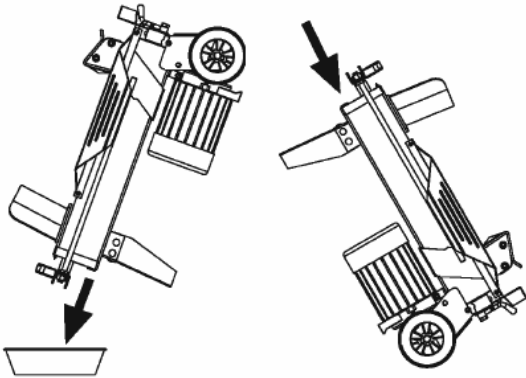

Fig.22: PREHLS52 / 042001 ;
- Turn the log splitter on the Support Leg side (Fig.22 & 23) over a container (4 liters capacity for log splitter Ref. 042001/PREHLS52; PREHLS52/5 / 042031 and 8 liters capacity for log splitter Ref. 042011/PREHLS7T) to drain the hydraulic oil off.
- Turn the log splitter on the motor side (Fig.22 & 23).